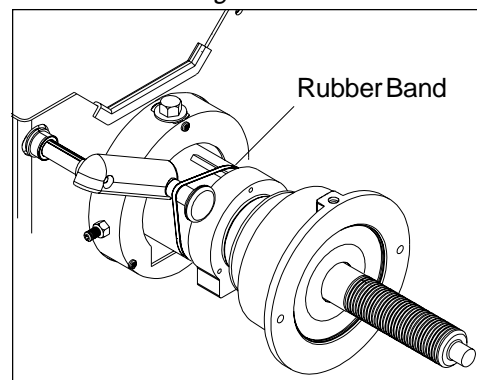

Figure 21
6. Extend the SAPE arm several inches and position the SAPE arm to point toward the center of the shaft by using a tight rubber band. See *Figure 21*.